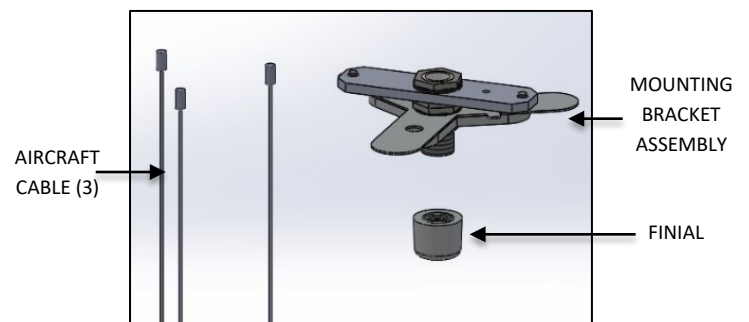

FIG. 8 MOUNTING KIT CONTENTS
- b. MOUNTING KIT CONTENTS (as shown in FIG. 8)
- i. THREE (3) AIRCRAFT CABLES